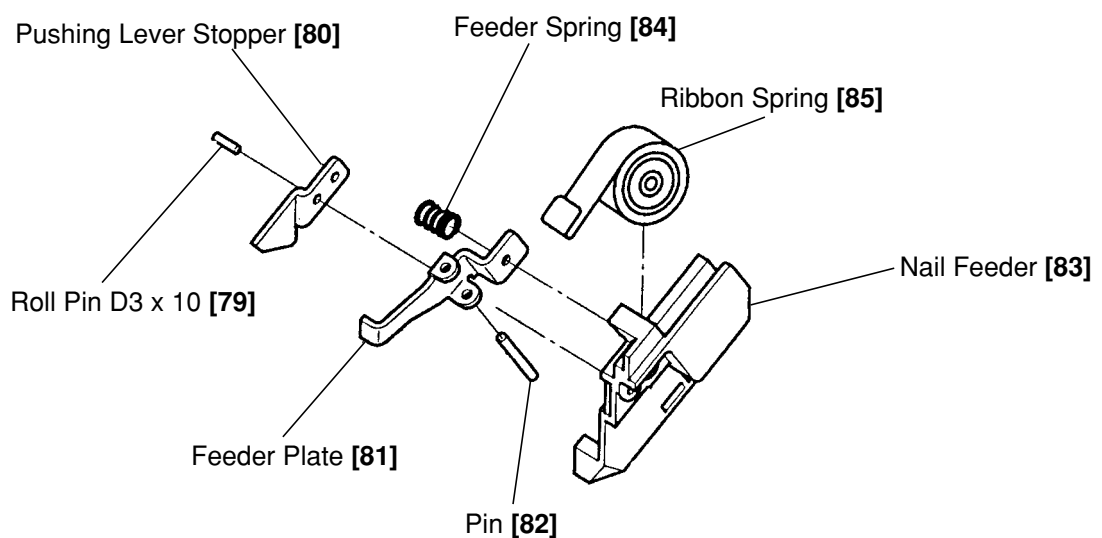

Fig. 33 Disassembly and reassembly of the nail feeder
(2) Disassembly and reassembly of the nail feeder (See Fig. 33.)